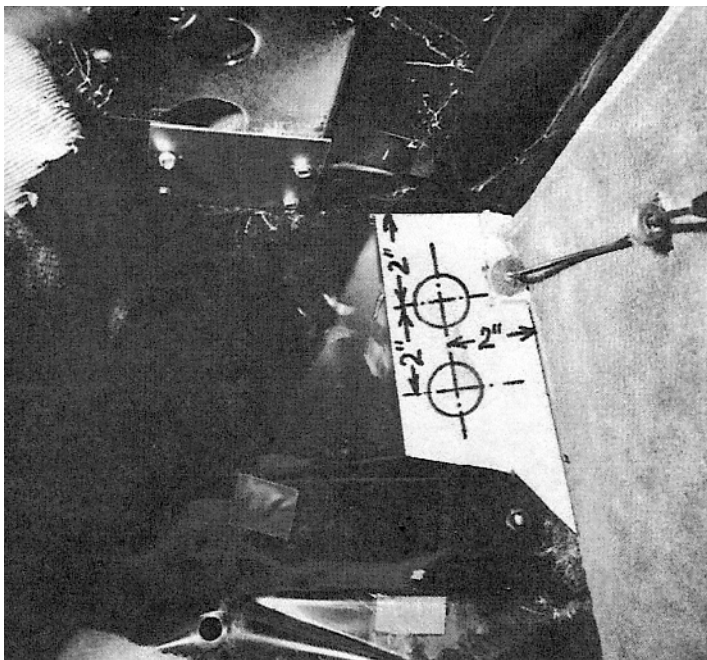

FIG 3
7. Now move into passenger compartment. Lift floor mat and locate centers as shown in FIG. 3 and drill (2) 1 3/8" holes through the floor panel for freon hoses. (CAUTION: Drill carefully as this is a double wall compartment and you need only to penetrate the metal firewall below the floor mat.) Insert grommets in the holes.
8. Locate the center as shown in FIG. 3 and drill (1) 3/4" hole for drain hose. (CAUTION: Hydraulic and fuel lines lie beyond this wall.)